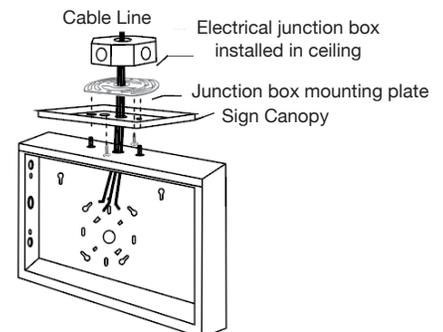

Fig. 4
- a) Pull wires through junction box mounting plate then connect junction box mounting plate to the junction box with screws (Fig. 4).
- b) Pull wires through the canopy then connect the canopy to the junction box mounting plate with screws (Fig. 4).
- c) Attach the top of the fixture to the canopy with the provided screws (Fig. 4).
4. Make wiring connections according to the wiring diagram on page 1. Choose the applicable wiring diagram. For self-powered (SP) models, ensure that the internal battery is connected to the circuit board.